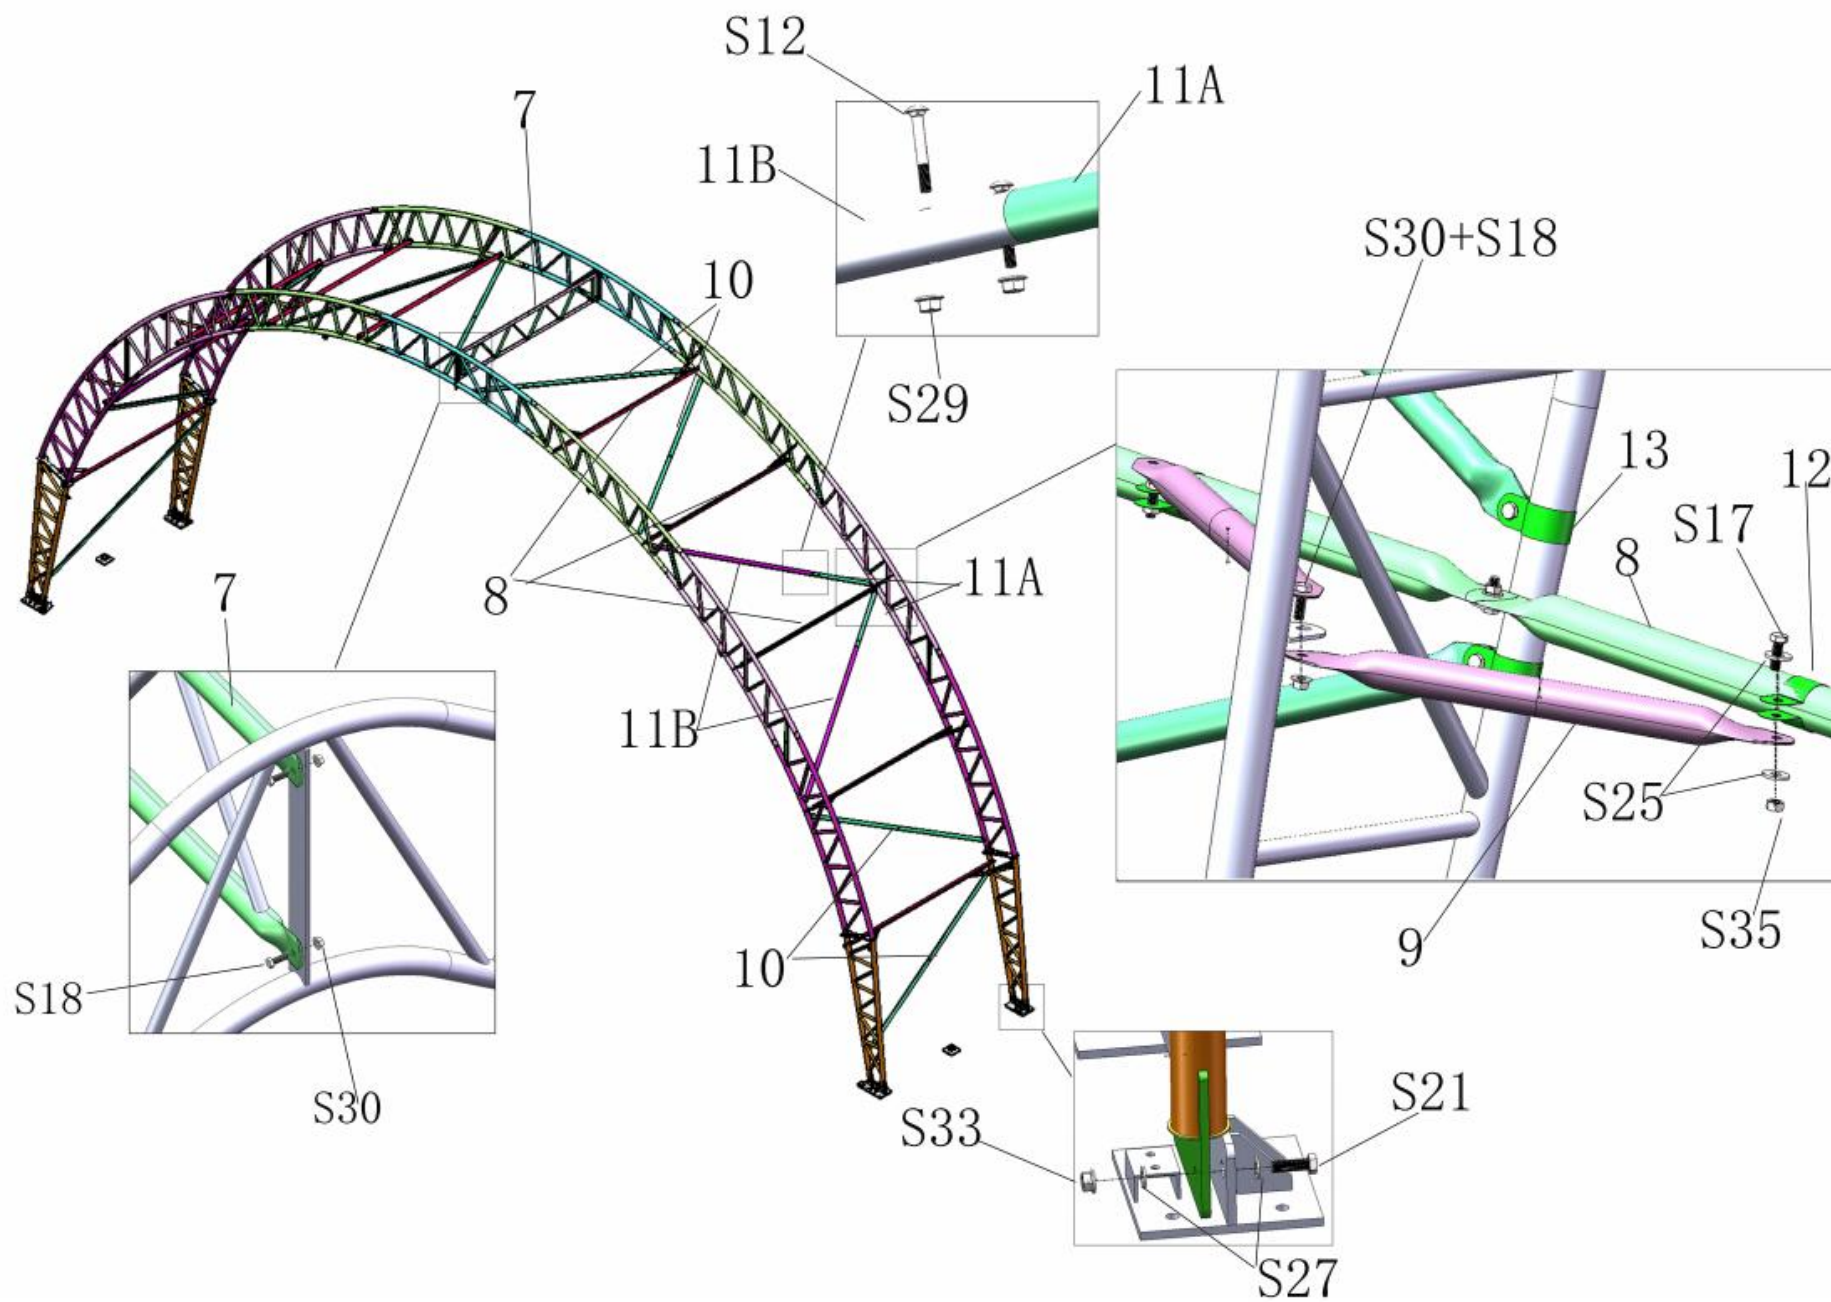
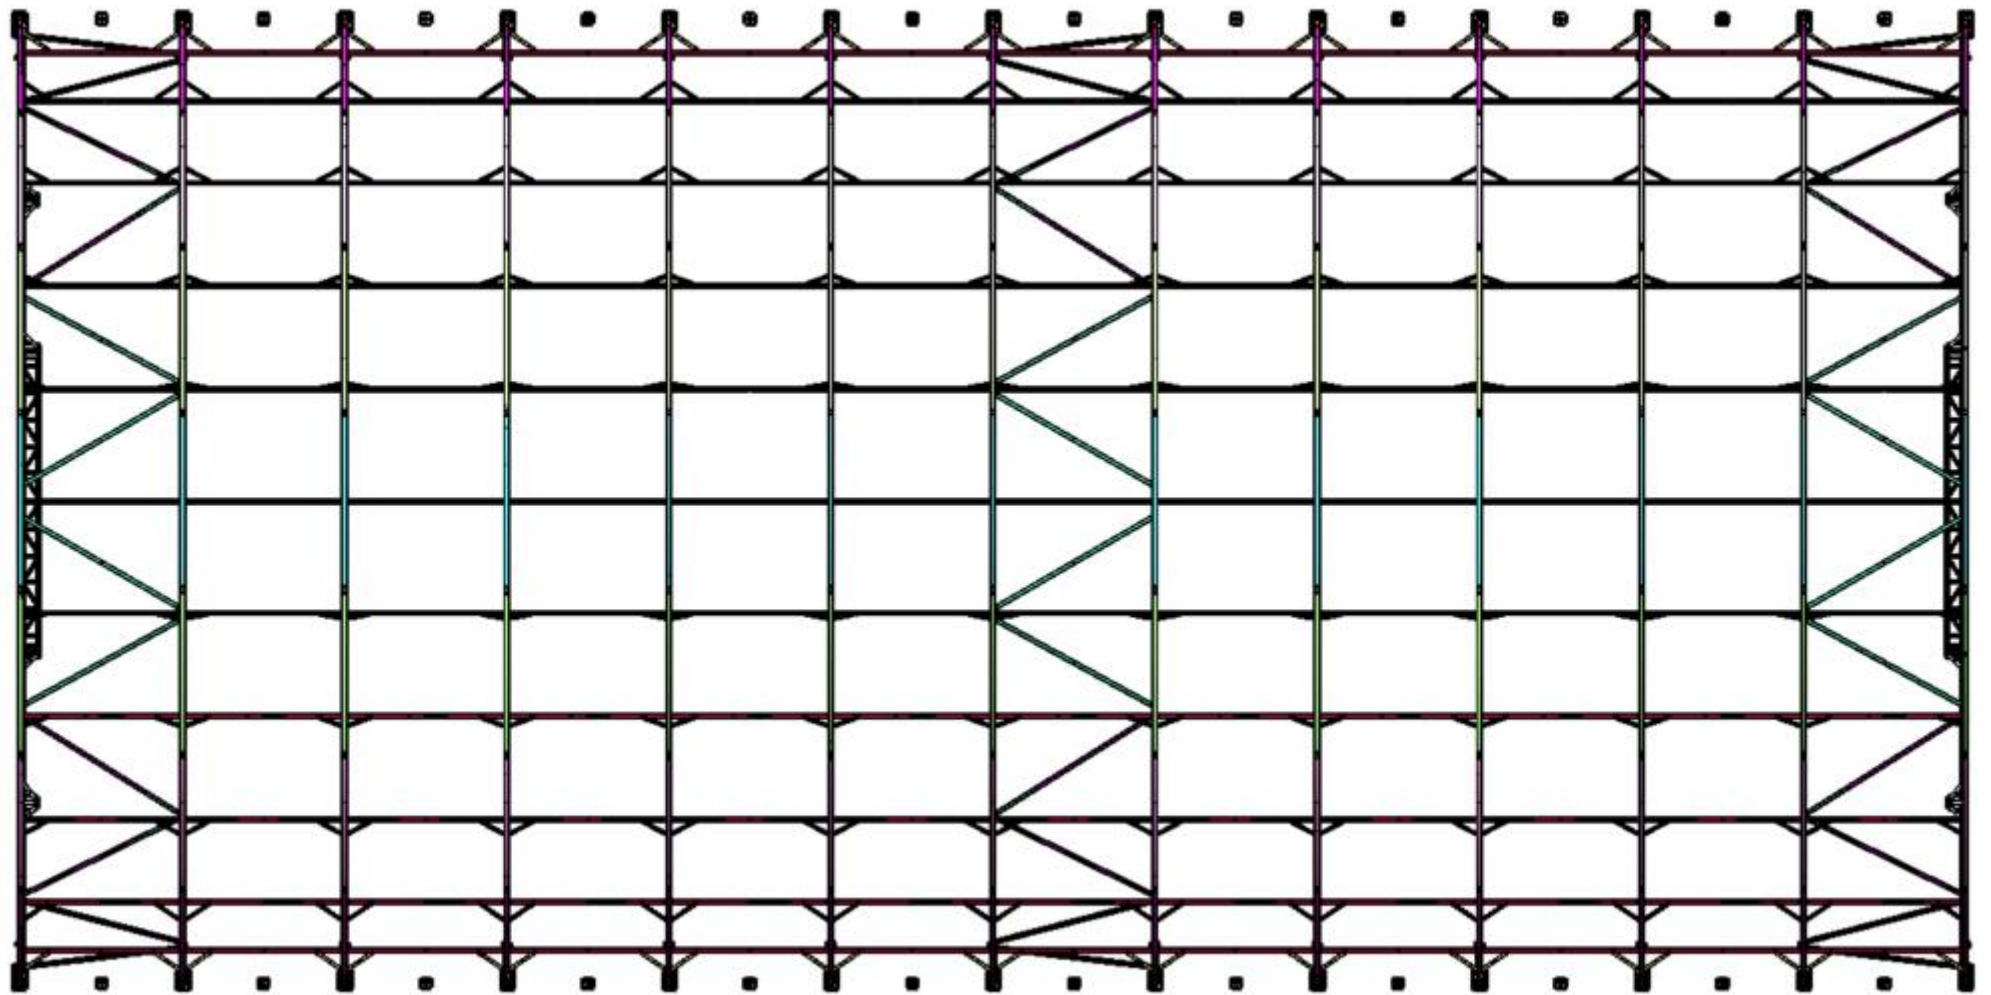

Figure 4
Figure 5
4. Above Figure 4 shown when finish installing all the arches into the base plates, use Double Trussed Purlins (No.7) to connect them by Screw M10x30 (No.S18) . Then use Purlins(No.8) to connect the arches by Screw M10X50 (No.17). In this turn, fix all other purlins. Finished stretch frame as below(Figure 5)
5. As figure 4 shown to find Diagonal Support Female Tube(No.11A) and Diagonal Support Male Tube(No.11B) and assemble every group support tube with hexagon flange nut M8(No.S29) and hexagon bolt M12*40(No.S19). Then connect the diagonal support tube (No. 9) to arch by using clip(No.12).